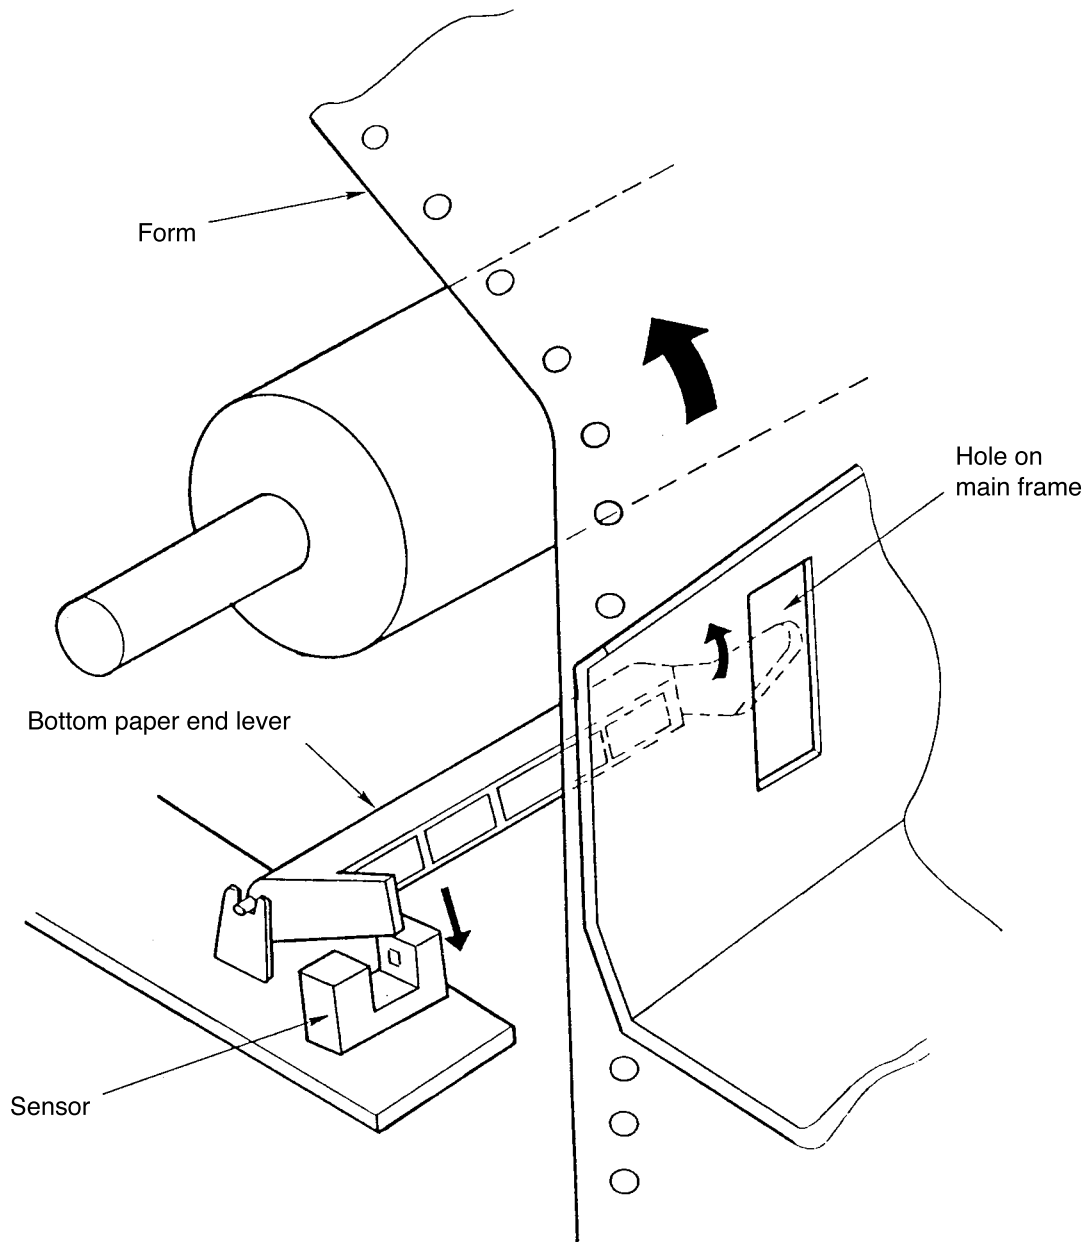

Figure 2.12 Bottom paper end detection mechanism
(2) Bottom paper end detection mechanism (See Figure 2.12)